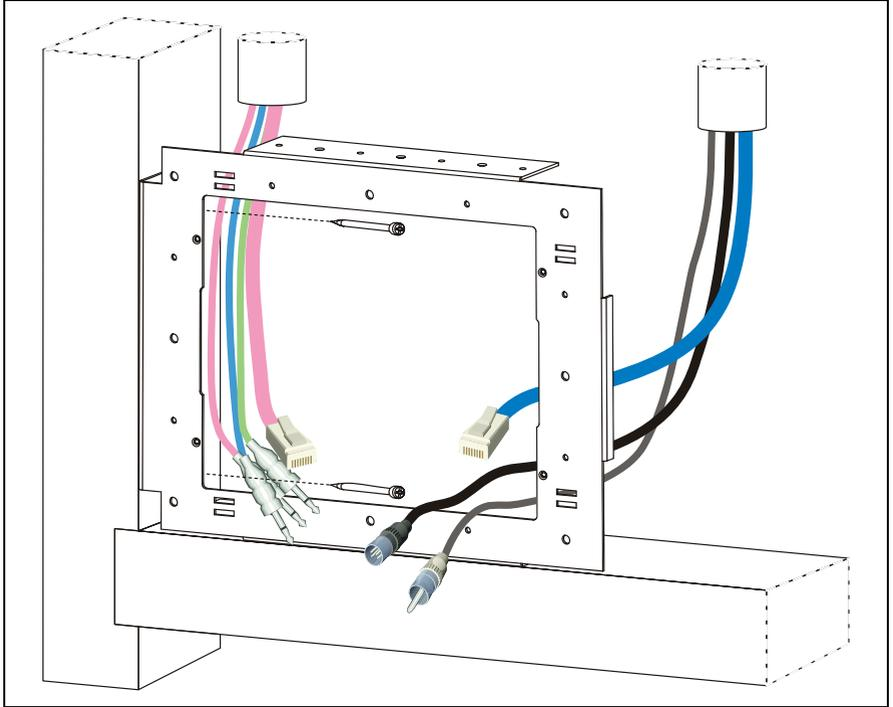

Figure 6 - Installing the C-Touch Colour Nail Bracket
- 3) Feed the cables through to the nail bracket. The use of conduit is recommended. Refer to Figure 6. The number and positioning of cables will vary depending on the particular installation. Possible cables are listed in Table 1.